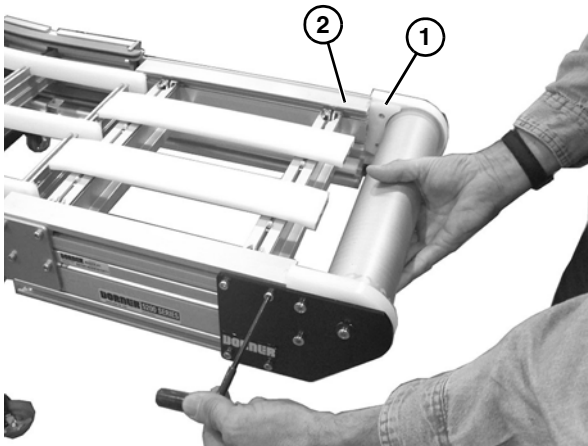

Figure 55
When reinstalling the idler spindle tail assembly, the idler terminal assembly (**Figure 55, item 1**) should mate flush with the conveyor frame (**Figure 55, item 2**).